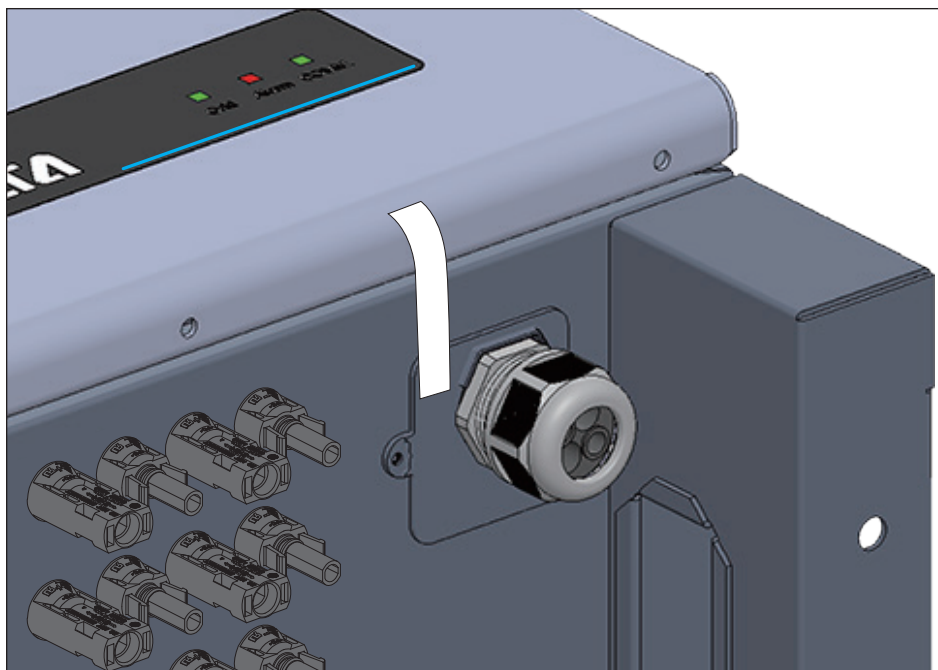

Figure 3-24: Apply a security seal on DC side door and Communication Module
- After completing the wiring operation and ensuring the cover no longer needs to be opened, please refer to **Figure 3-24** to apply a brand new one-time-use security seal (item 10, **Table2-1**) .